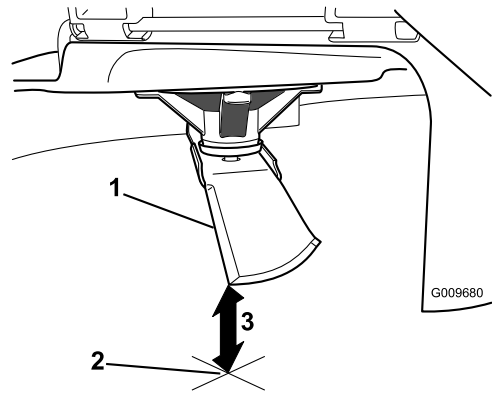

Figure 65
5. Measure from the tip of the blade to the flat surface (Figure 65).